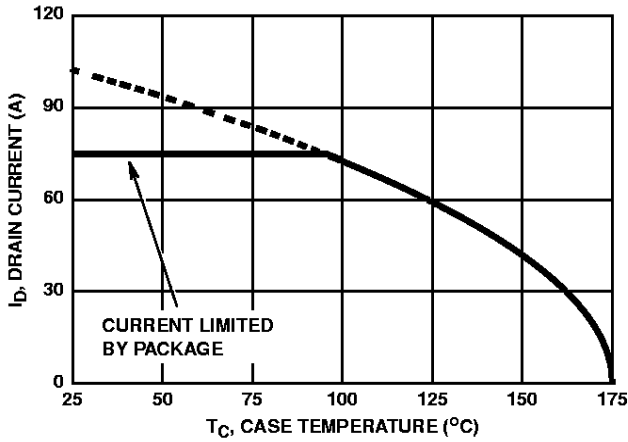

FIGURE 9. MAXIMUM CONTINUOUS DRAIN CURRENT vs CASE TEMPERATURE
1. Calculated continuous current based on maximum allowable junction temperature. Package limited to 75A continuous, see Figure 9.